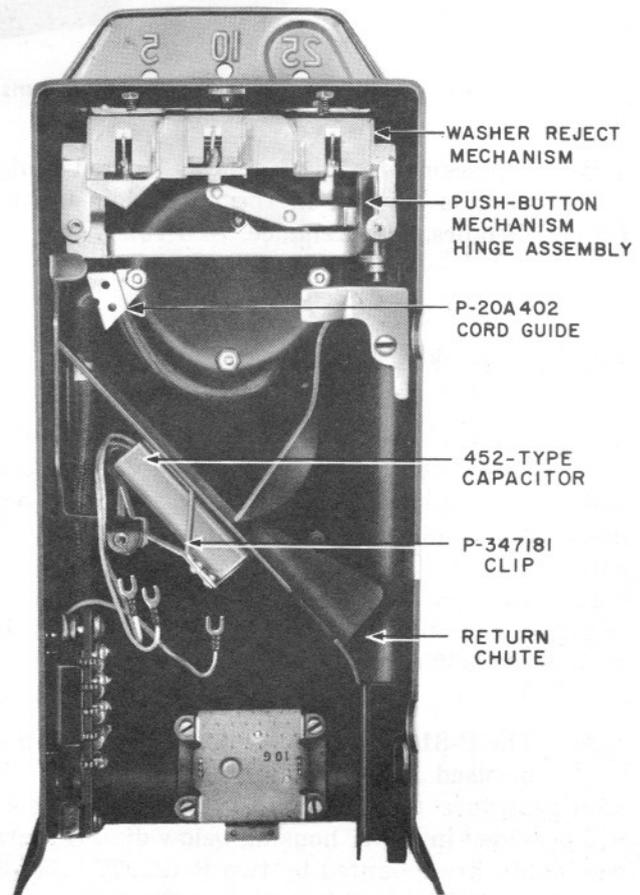

Fig. 10 - Upper Housing, Interior View
When provided, the washer rejector and associated coin-release push-button mechanism are also riveted or permanently attached to the upper housing and are an integral part of the assembly, as shown in Fig. 10.
4.10 Coin collectors using coin-chute assemblies equipped with a P-349754 gong assembly have the 452-type capacitor, which is associated with the electromagnet, mounted on the upper housing underneath the coin chute with a P-347181 clip as shown in Fig. 10.